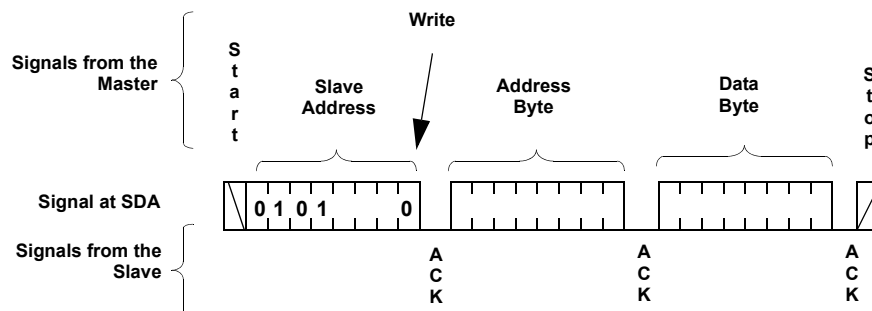
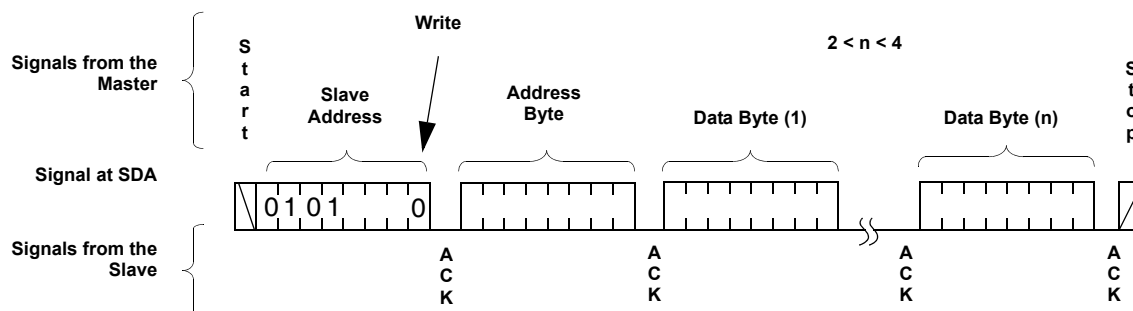

FIGURE 7. BYTE WRITE SEQUENCE
FIGURE 9. PAGE WRITE OPERATION
2. Access the desired DR or WCR using a new write or read command (see Figure 7 for write and Figure 9 for read.)
For any Byte Write operation, the X9455 requires the Slave Address byte, an Address Byte, and a Data Byte (See Figure 7). After each of them, the X9455 responds with an ACK. The master then terminates the transfer by generating a STOP condition. At this time, if the write operation is to a volatile register (WCR, or SR), the X9455 is ready for the next read or write operation. If the write operation is to a nonvolatile register (DR), and the $\overline{WP}$ pin is high, the X9455 begins the internal write cycle to the nonvolatile memory. During the internal nonvolatile write cycle, the X9455 does not respond to any requests from the master. The SDA output is at high impedance.
As stated previously, the memory is organized as a single Status Register (SR), and four pages of four registers each. Each page contains one Data Register for each wiper. Normally a page write operation will be used to efficiently update all four Data Registers and WCR in a single Write command. Note the special sequence for writing to a page: First wiper 0A, then 1B, then 1A, then 0B as shown in Figure 9.
up to 4 bytes (See Figure 9). After the receipt of each byte, the X9455 responds with an ACK, and the internal WCR address is incremented by one. The page address remains constant. When the address reaches the end of the page, it "rolls over" and goes back to the first byte of the same page.